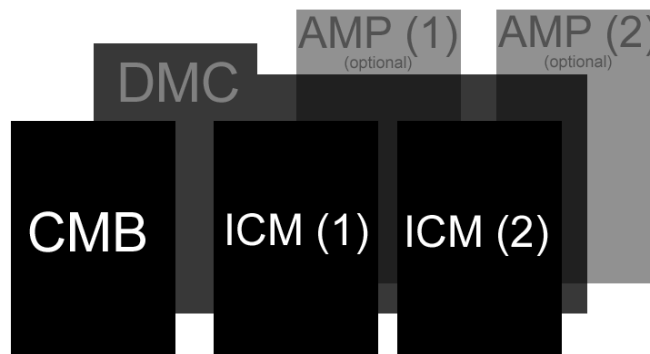

Figure 1.2: Abstract internal layout of the DMC-40x0 for 5-8 axis models
For 5-8 axis models, the user must also specify an additional ICM and optional internal amplifier type for axis 5-8 as shown in Figure 1.2.
The placement of ICM and AMP/SDM options is extremely important for 5-8 axis models. Reading left to right, the first ICM (Axis 1-4) will be placed in the ICM (1) spot in Figure 1.2 and the second ICM (Axis 5-8) will be placed in the ICM (2) spot. This also follows for AMP/SDM placement.